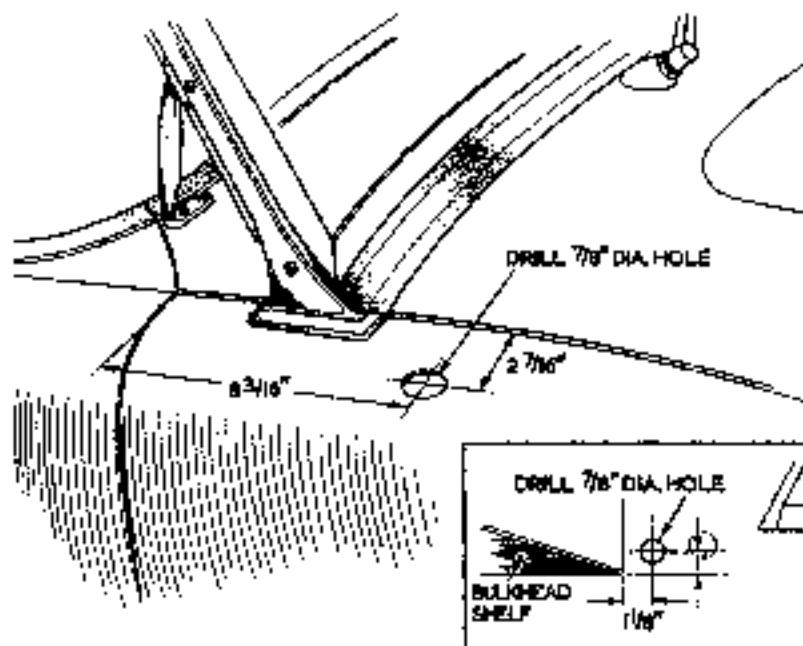

Fig. 1.
3. Drill a $\frac{7}{8}$ " diameter hole in wing to dimensions given in Fig. 1.
4. Drill a $\frac{7}{8}$ " diameter hole in metal panel to dimensions given in Fig. 1. (inset).